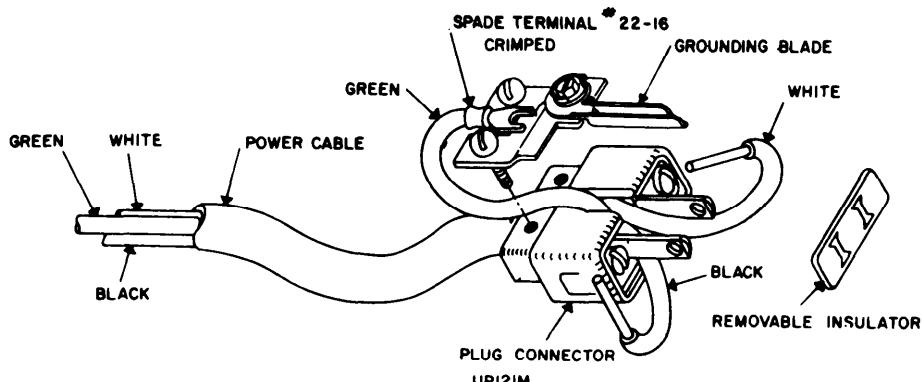

Figure 7-8. Replacement of power plug UP131M.
a. Remove the old plug UP131 M from the power cord by taking out the the screws as shown (fig. 7-8).